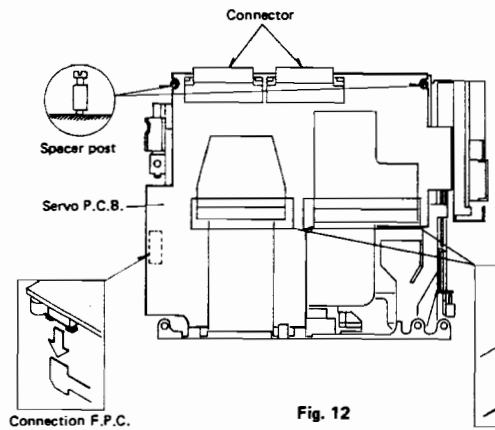

Fig. 12
3. Remove the 3 connection F.P.C. cords from the servo P.C.B. (Fig. 12).